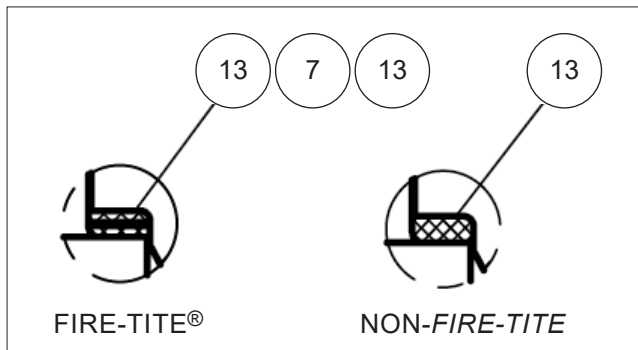

Figure 8. Thrust Bearing Orientations
7. From inside the body (1), insert the one thrust bearing (13), the secondary stem seal (7), and the second thrust bearings (13) into the stem bore (see **Figure 8**).
9. Slide one thrust bearing (13), the secondary stem seal (7) and the second thrust bearing (13) over the stem (4) (see **Figure 8** for proper orientation).